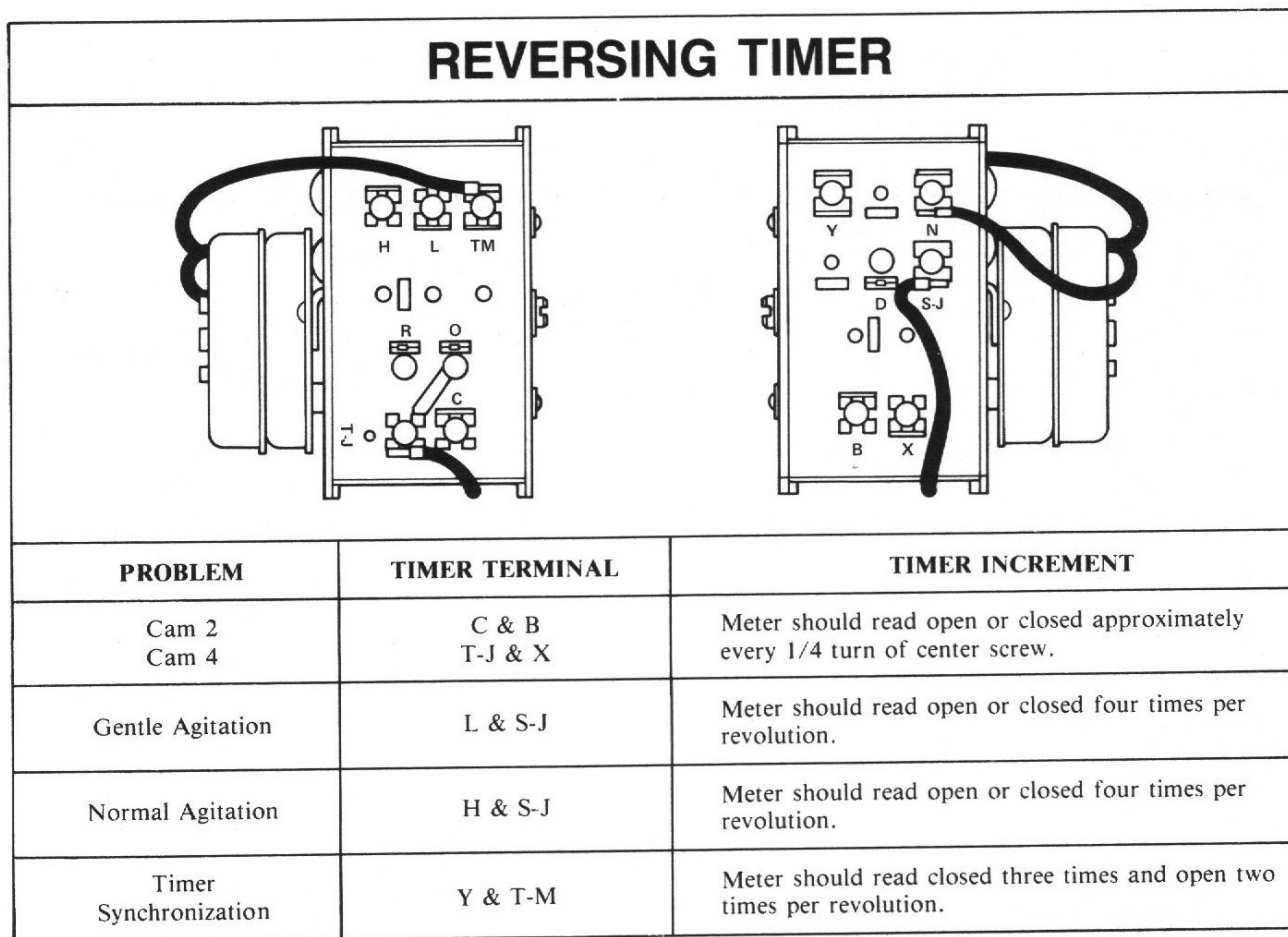

Figure 58
- Apply meter probes to timer terminals indicated in *Figure 58* for continuity check.